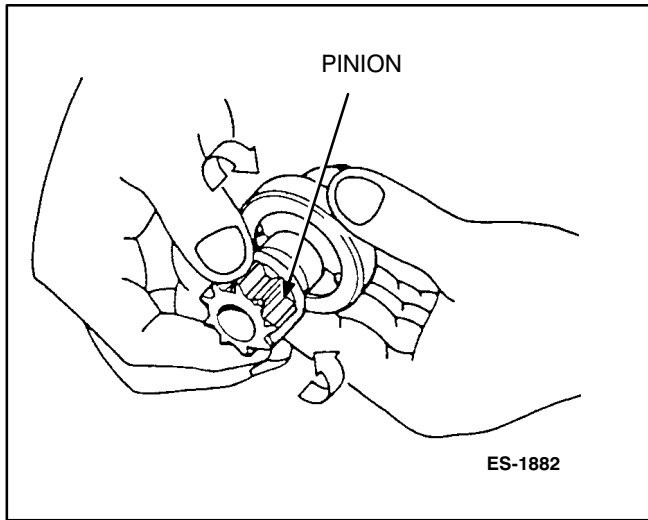

FIGURE 6-21. OVERRUNNING CLUTCH
1. Check the clutch for smooth operation (Figure 6-21).